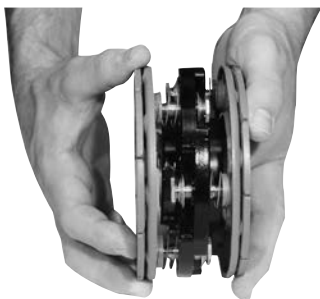

Figure 10
Step 7 Repeat Steps 5 and 6 for the second armature. (Figures 10 & 11)